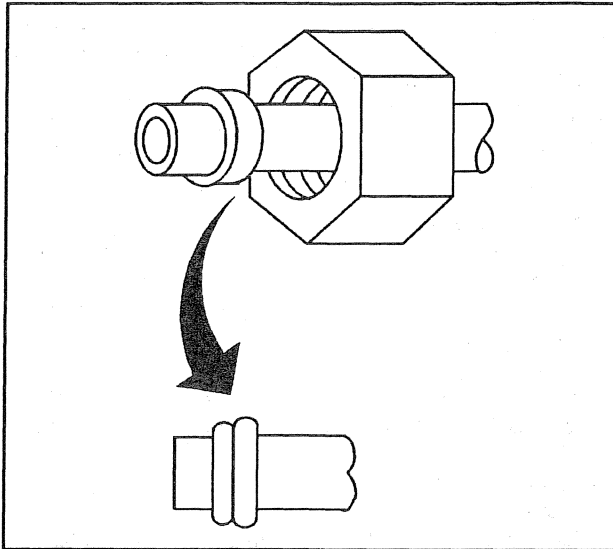

Figure 12—Proper O-Ring Installation
- Remove sealing caps from subassemblies just before making connections for final assembly. Use a small amount of clean 525 viscosity refrigerant oil on all tube and hose joints. Use new O-ring seals dipped in 525 viscosity refrigerant oil when assembling joints. The oil will aid in assembly and help to provide a leakproof joint. O-ring seals and seats must be in perfect condition because a burr or a piece of dirt can cause a refrigerant leak. Refer to figures 12 and 13 for additional information.